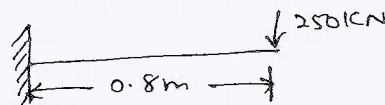

Fig. Q7 (b)
b. A Cantilever beam subjected to point load of 250 KN as shown in Fig. Q7 (b). Determine deflection at tip and support reactions.